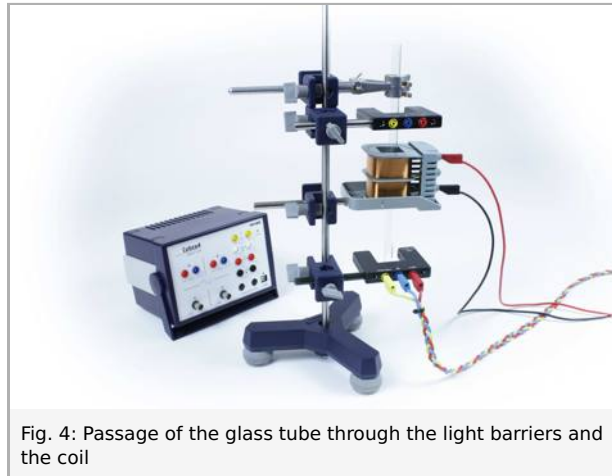

Fig. 4: Passage of the glass tube through the light barriers and the coil
- Lay the glass tube through the coil and fasten it in the upper end of the universal clamp so that it points perpendicularly to the floor (see Fig. 4). The glass tube provides guidance to the magnet and ensures that it falls without spinning even from greater heights. In addition, it is ensured that the magnet interrupts the light barriers during its fall.